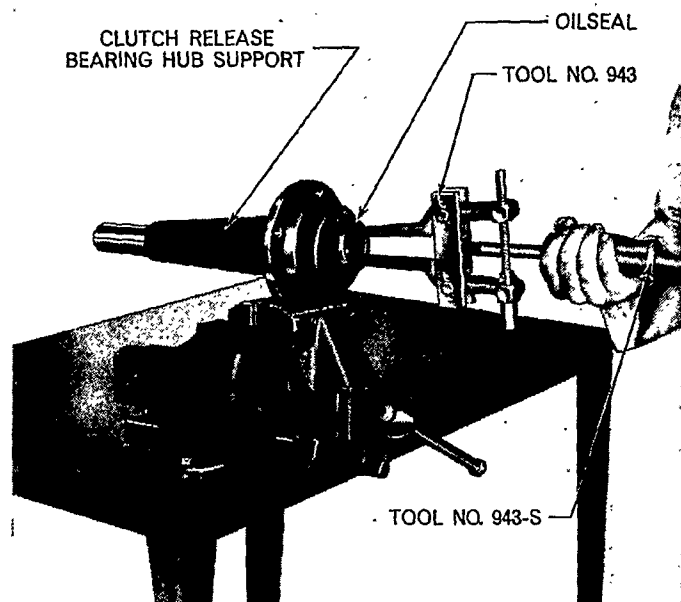

Figure 61
2. Inspect the mainshaft front oil seal located in the clutch release bearing hub support and if necessary remove the seal using Tools Nos. 943 and 943-S, Figure 61.